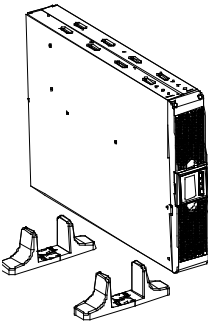

Fig 1
1. Slide down the UPS vertically and put two UPS stands at the end of the tower (Fig 1).